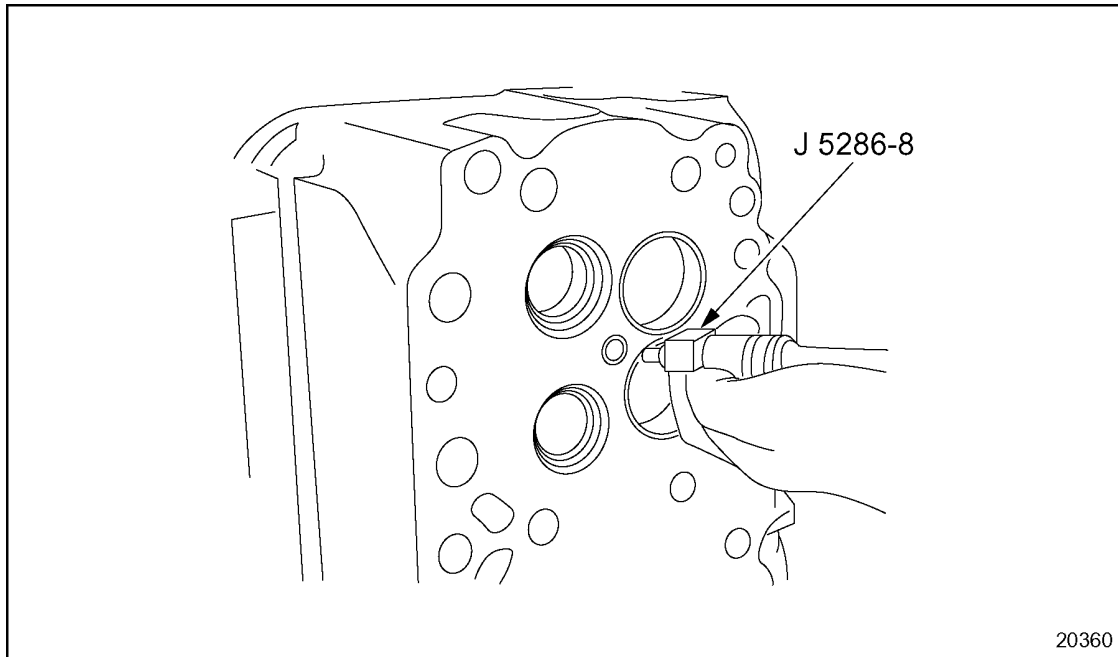

Figure 2-25 Refinishing Injector Tube Tip
- [a] With the cylinder head firedeck in a workable position, insert the tube tip refinisher tool, J 5286-8 part of J 33880, into the injector tube. See Figure 2-25.